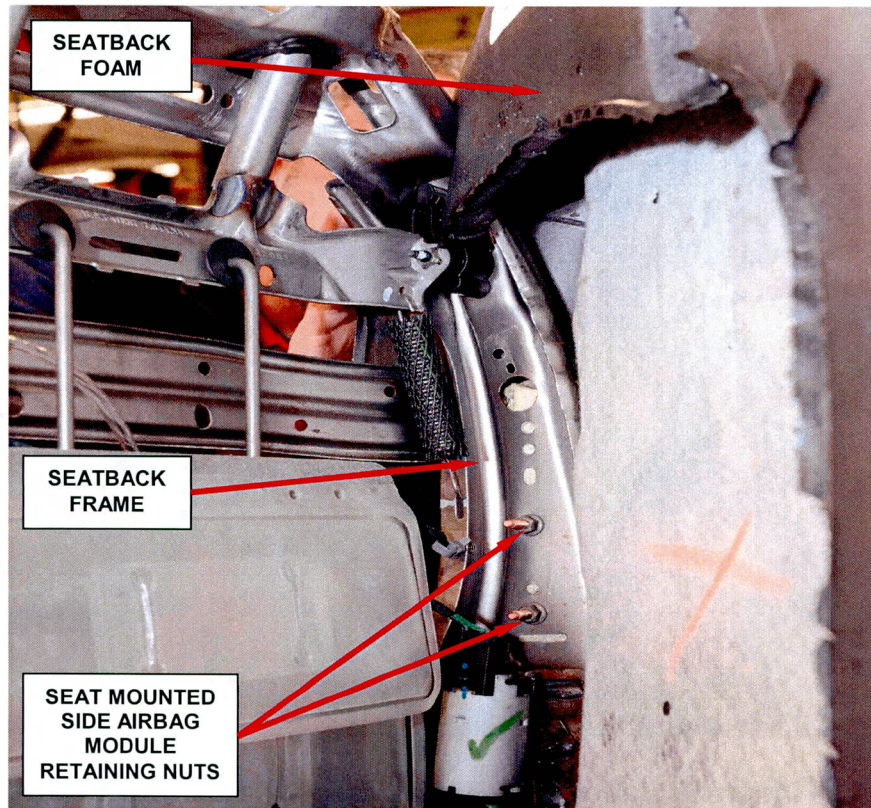

Figure 7 – Seat Mounted Side Airbag Module Retaining Nuts (Front View)
20. Remove and save the two seat mounted side airbag module retaining nuts (Figure 7).